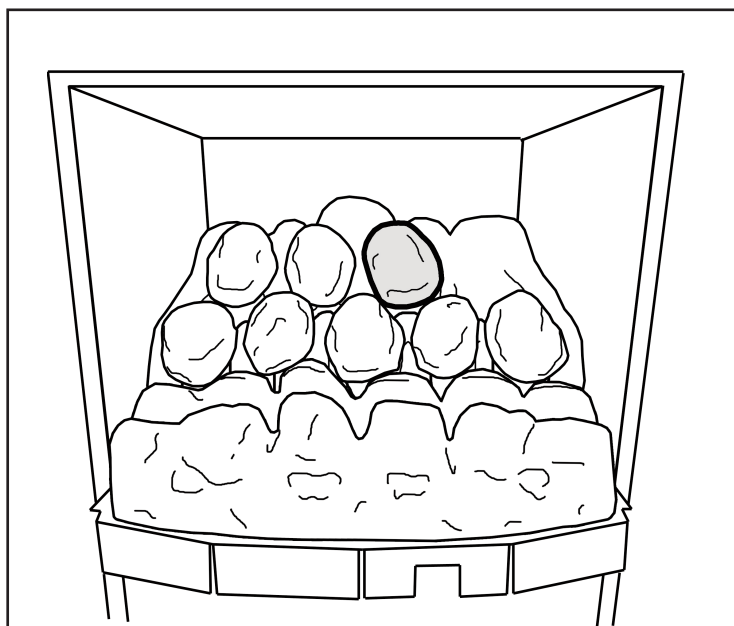

Figure 10. Third row "Coal H"
11. Hold coal 'H' upright with the arrow pointing to the top. Locate coal 'H' as shown in figure 10.